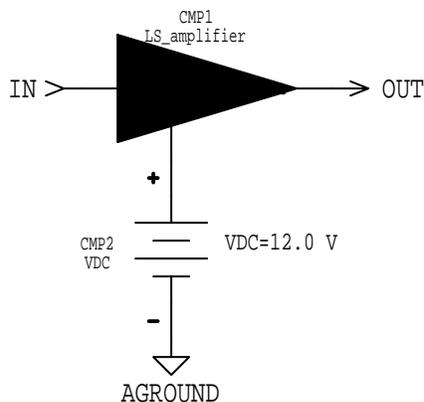
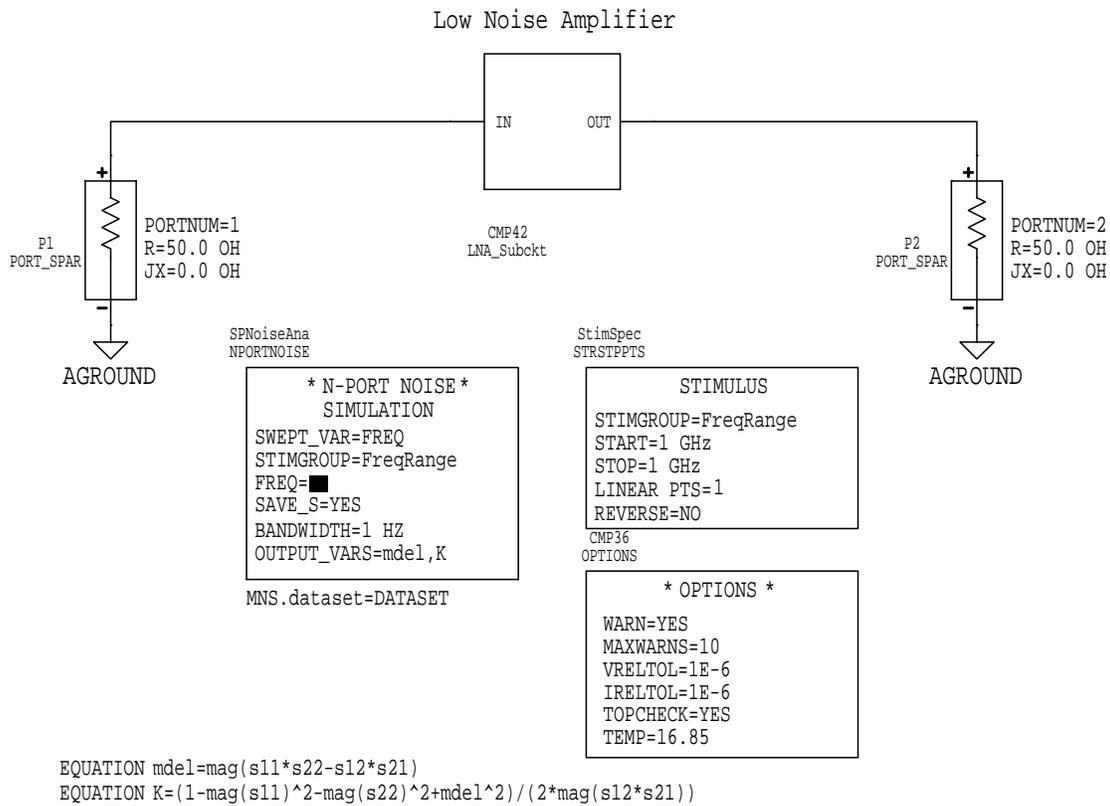

Figure 2: LNA subcircuit (LS_amplifier + power supply)
Figure 3: LNA test circuit
- Construct the subcircuit shown in Figure 2. To access the LS_amplifier subcircuit, click [MB:INSERT/COMPONENT/BY LABEL]. The 'Label of Design Icon to be used as a Component:' window appears. In the input box, type Learn_amp/LS_amplifier. Click [OK] and then place the LS_amplifier symbol onto the circuit page.
NOTE: The circuit in Figure 3 was created using a template that has all the necessary noise and stimulus controls pre-configured. Do not try to build the circuit using your standard construction techniques. Perform the following steps instead.
- Turn in printouts of the LNA subcircuit (see Figure 2) and the LNA test circuit (see Figure 3).